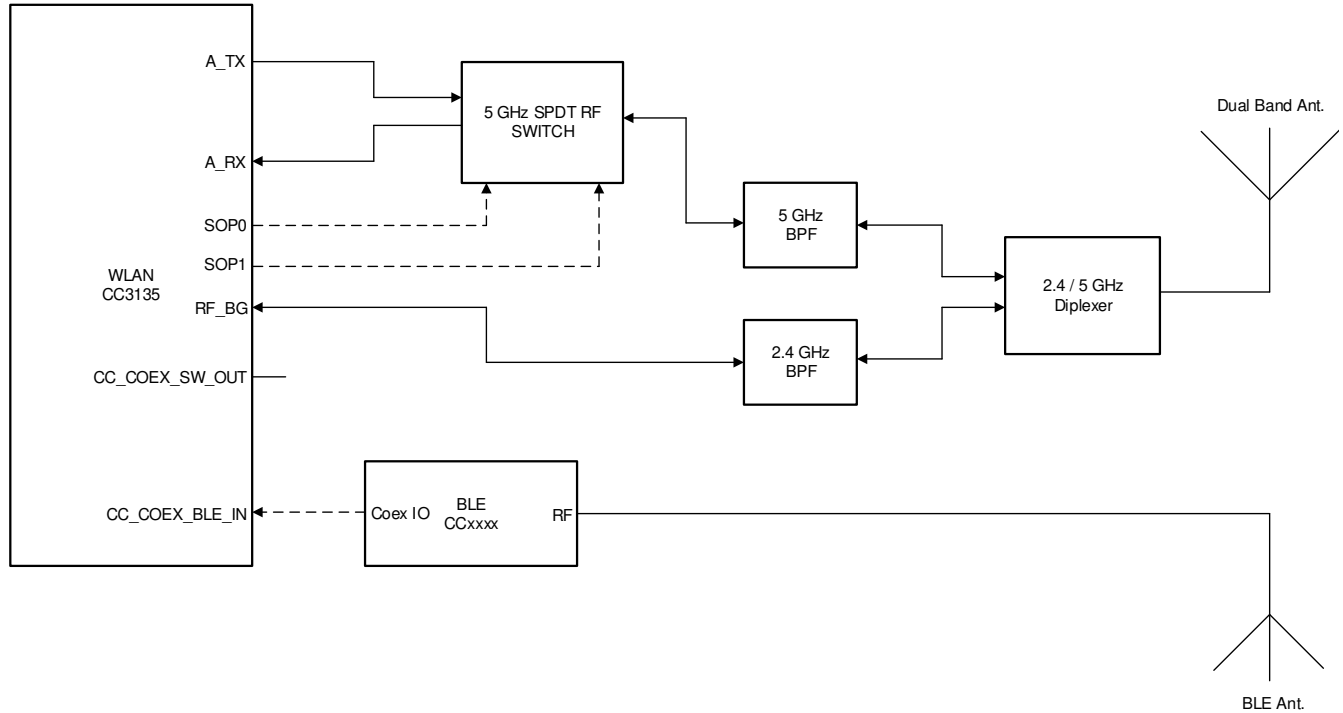

Figure 10-4. Dual Antenna Coexistence Solution with 5 GHz Wi-Fi®
- 5 GHz Wi-Fi band (see Figure 10-4)
Figure 10-4 shows the dual antenna implementation of a complete Bluetooth® low energy and WLAN coexistence network with the WLAN operating on either a 2.4- or a 5 GHz band. In this case, the 2.4 GHz and 5 GHz Wi-Fi share an antenna and the BLE has it's own dedicated antenna. The SOP lines control the 5 GHz switch. Note in this implementation no Coex switch is required and only a single GPIO from the BLE device to the CC3135 device is required.